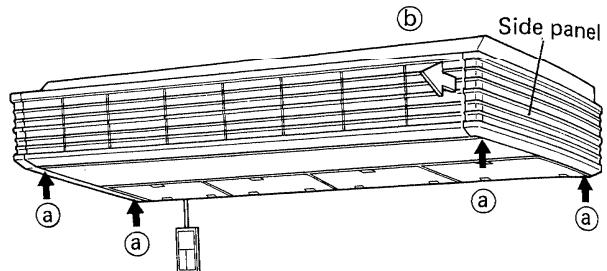

Fig. 1
- 2) Slide the side panels on both sides towards the front (b) of the unit in order to remove them. Fig. 1